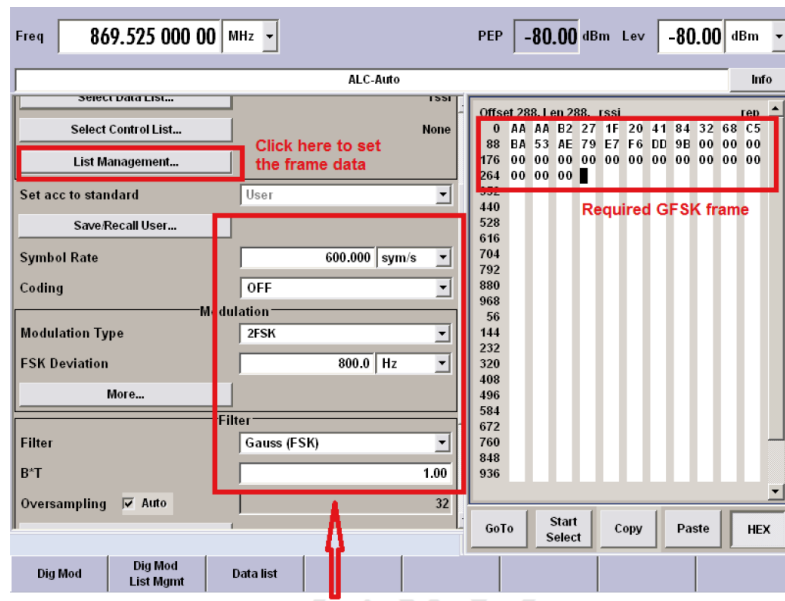

Fig. 3-11: SMBV configuration for generating Sigfox downlink base station signal
- o Configure as shown in Fig. 3-11